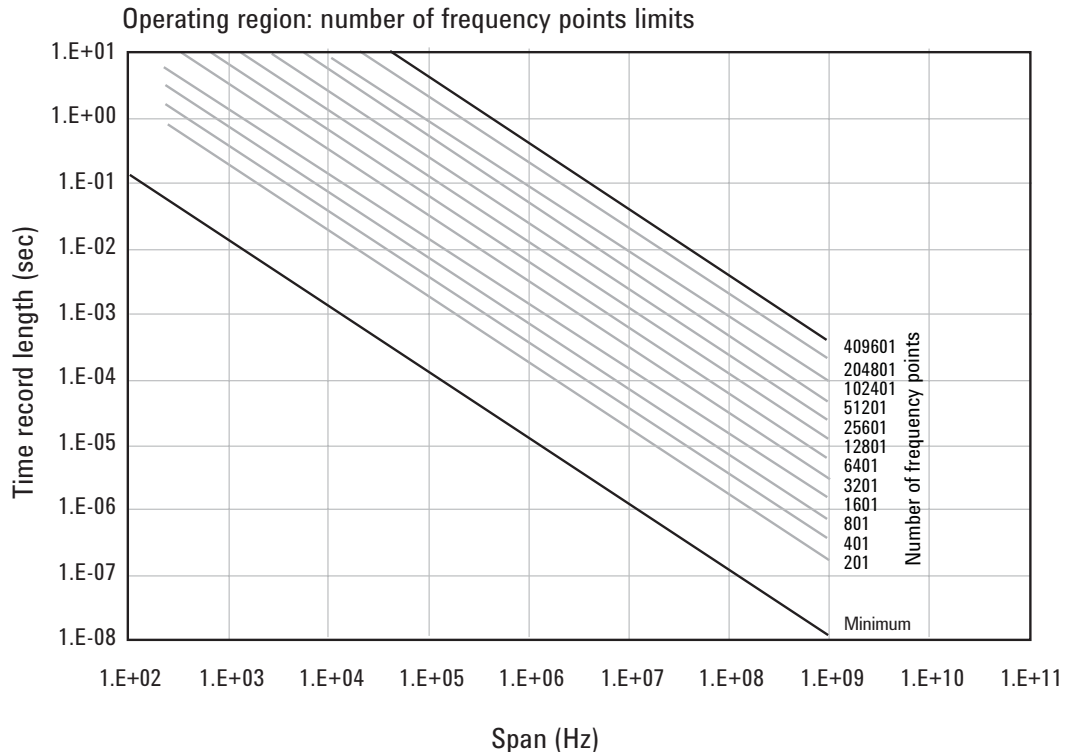

Figure 3. The user-settable parameter, frequency points, begins to determine the boundaries of the time record length and frequency span operating region.
The operating region is described in terms of span and time record length. For a given window type it could just as easily be described in terms of span and RBW. Figure 3 shows the effects of the number of time points the 89600B VSA software is allowed to collect. Because sample spacing is inversely proportional to span, the record length decreases as span increases. Although a family of lines is shown, only two define the operating region at any one time. The lowest line gives the smallest time record length allowed for any given span. The position of this line is determined by minimum number of time points (16) the 89600B VSA requires in a time record. The line that defines the upper time record length boundary is positioned by the maximum number of time points the 89600B VSA allows in a time record. The maximum number of time points is determined by the **Frequency Points** setting (**MeasSetup>ResBW>Frequency Points**). The 89600B VSA is constrained to operate in the region between these two lines. Note that the operating lines of Figure 3 are the same for all Infiniium models.